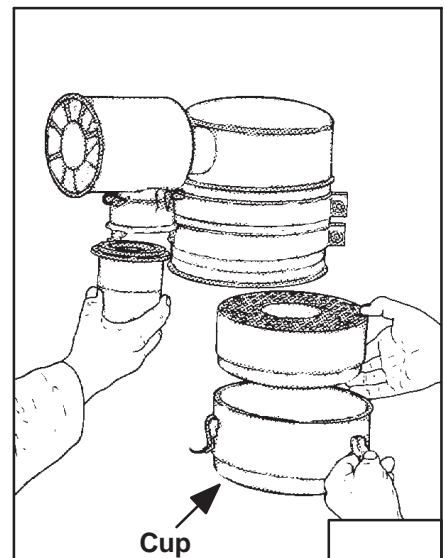

Fig. 1-9 Oil Bath Air Cleaner
3. Fill cup with oil to correct level (Fig. 1-9).